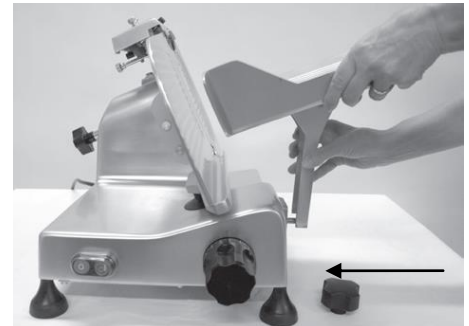

Figure 8-3
5. Place the cleaned and sanitized food chute back onto the chute arm (Fig 8-3). Securely tighten the food chute release knob to prevent any "play" between the food chute and the chute arm.